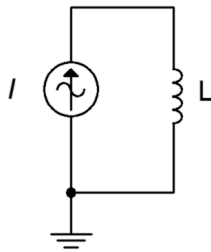

Figure 2.10
15. Draw the voltage and current waveforms for the circuit of Figure 2.10 if I is a two amp peak-peak sine at a frequency of 40 Hz and $L = 33$ mH.